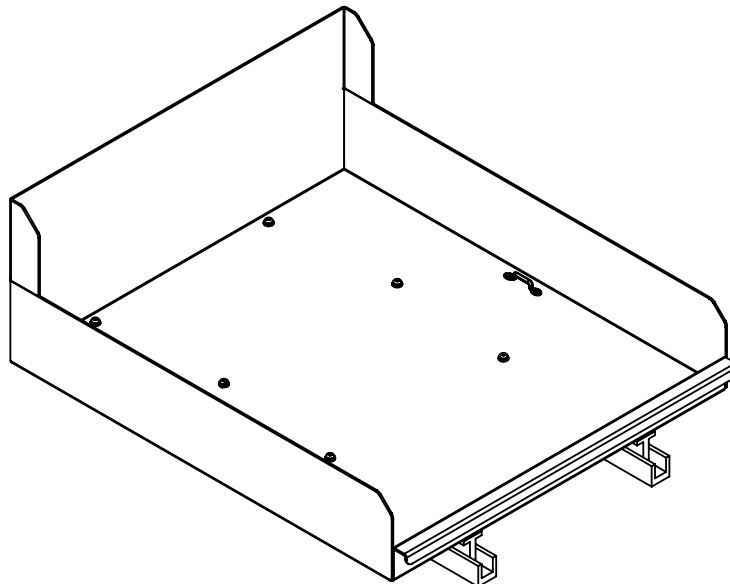

Figure 11 Rollout Tray
30. Remove tray (see Figure 11):